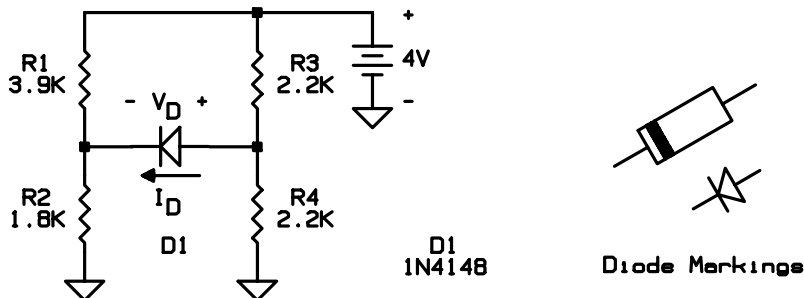

Fig. 1 DC diode circuit.
Analyze the circuit of Fig. 1 twice, once assuming the diode to be ideal, and then assuming a constant-voltage-drop (CVD) of 0.7 V in the on state. Find the diode state, the diode voltage, and the diode current. Bring these expected results to the lab.
1. Simulate the circuit of Fig. 1 using a 1N4148 diode model from the component model library. The results will appear in the output (*.OUT) file. Record the diode voltage and current.
2. Simulate the circuit of Fig. 1 using the following diode model parameters: $I_S = 10^{-15}$ A and $N = 0.01$. These can be entered in PSpice by editing the diode “instance model.” Highlight the diode on the schematic and pick “Edit,” followed by “Model,” followed by “Edit Instance Model.” This gives you access to the text file containing the diode model
3. Assemble the circuit of Fig. 1 using a 1N4148 and measure the diode voltage and current using a digital multimeter. Record the diode voltage and current.